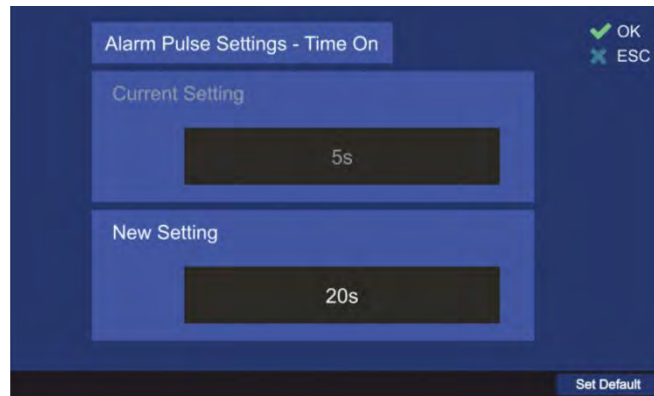

Figure 93. Time on Dialog
- To change the "Time On"- time, press the hotkey "Edit Value". The related dialog will open (s. Figure 93).